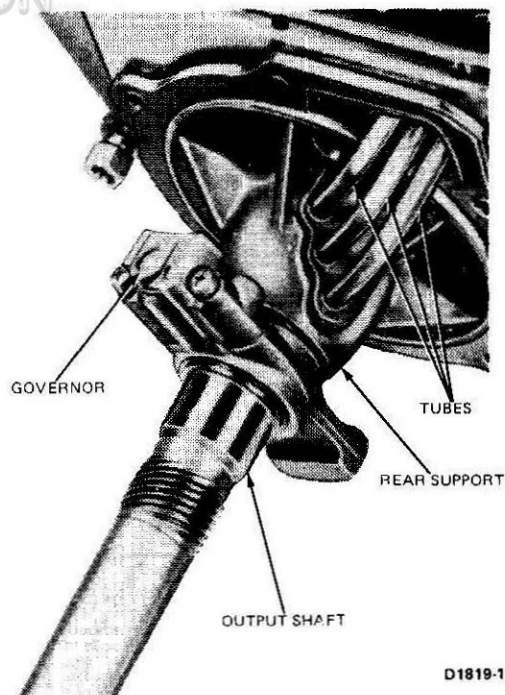

FIG. 16 Rear Support and Output Shaft Installed
3. Remove the output shaft assembly (Fig. 16). To facilitate output shaft removal, insert a screwdriver between the output shaft ring gear and pinion carrier and pry the output shaft rearward. **Be careful not to bend the pressure tubes between the rear support or distributor sleeve and case as the tubes are removed from the case.**